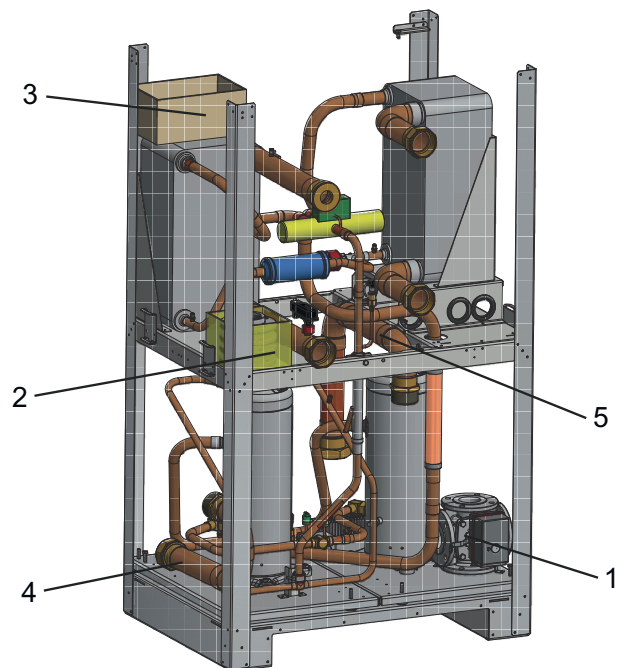
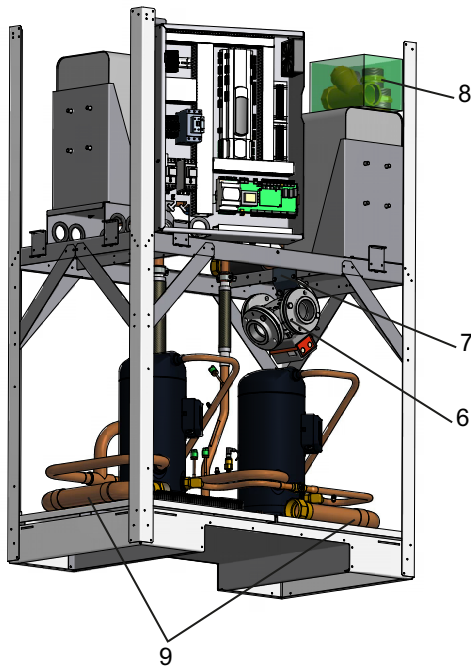
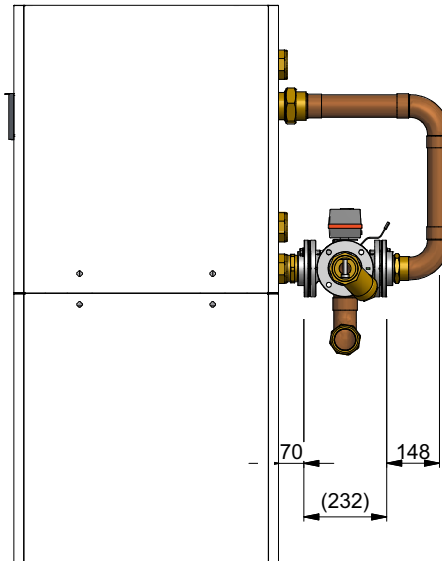

Fig. 7.1:
Fig. 7.2:
Fig. 7.3:
The hydraulic 4-way reversing valve (1) preassembled with the actuator is secured on the baseplate with 3 mounting brackets. The mounting brackets must be removed and the flange gasket placed under the 4-way reversing valve must be used (see Fig. 7.1 on page 6.). Additional flange gaskets are located together with the threaded flanges in the accessories kit (2). The connections elements are placed, together with the protective filter in the accessory box (3), on the plate heat exchanger. A pre-assembled pipe assembly (4) is placed on the baseplate and an additional pipe assembly (5) is secured in the upper section on the sheet metal part. These pipe assemblies must be connected with the threaded flanges as shown in Fig. 7.3 on page 7.
The hydraulic 4-way reversing valve (6) preassembled with the actuator is fixed on a transport plate (7) inside the unit with its threaded flanges (see Fig. 7.2 on page 7). After dismantling the hydraulic 4-way reversing valve from the device compartment, the transport plate (7) must be removed. The threaded flanges of the 4-way reversing valve must be loosened. The connections elements and the flange gaskets are placed, together with the protective filter in the accessory box (8), on the plate heat exchanger. Two preassembled pipe assemblies (9) are placed on the baseplate of the heat pump. These pipe assemblies must be connected with the threaded flanges as shown in Fig. 7.3 on page 7.
The clearances shown in Fig. 7.3 on page 7 must be achieved with the sealing process between the double nipple and threaded flange on the heat pump on the one hand, and between the "heating water flow" pipe assembly and threaded flange on the other. When the required installation position is achieved, the flanges with the accompanying seals must be connected with the hydraulic 4-way reversing valve using screws, washers and spring washers.